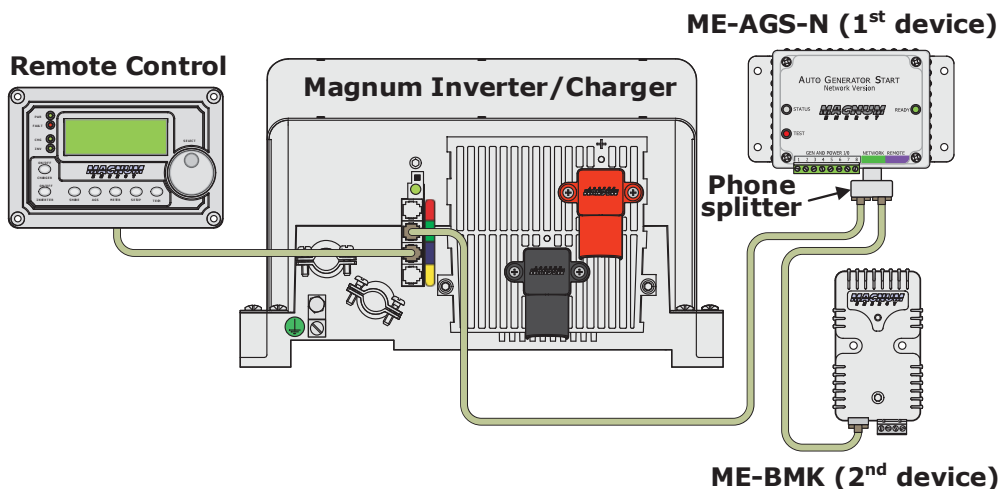

Figure 2-8, Multiple Network Devices – Daisy Chain Configuration
- **Daisy Chain Configuration** – Network devices are linked in a series (Figure 2-8). If using this configuration, the ME-AGS-N must be the first device connected to the inverter's Magnum Net or Network port—followed by the second network device.